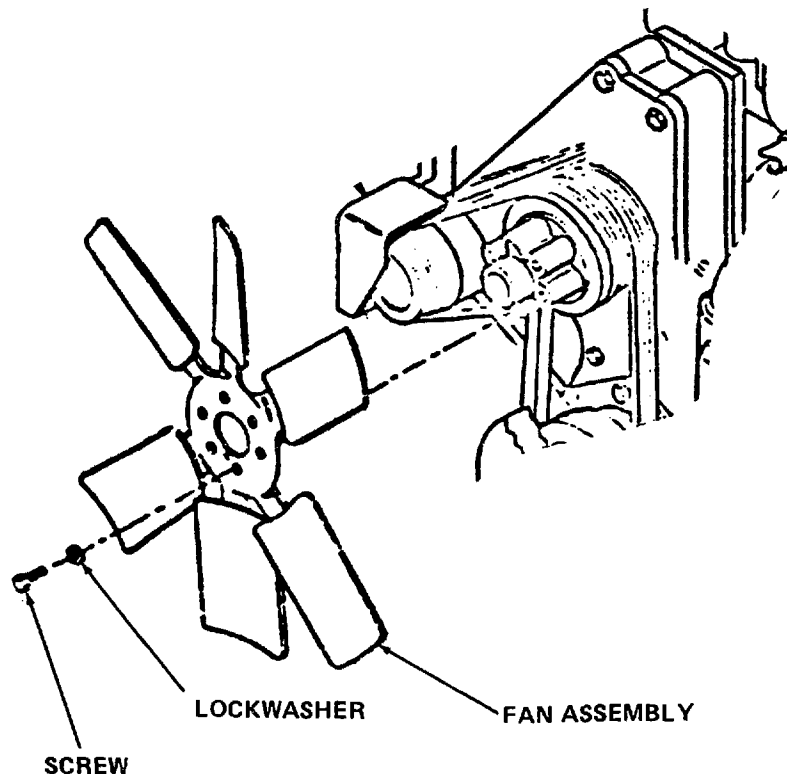

Figure 4-64. Fan Assembly, Replacement
b. Remove screws and lockwashers (see figure 4-64).